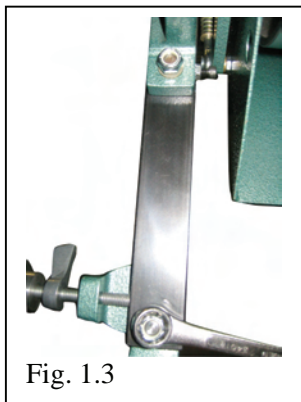

Fig. 1.3
3. Locate the 3/8" studs and elastic stop nuts and washers. See Figure 1.3